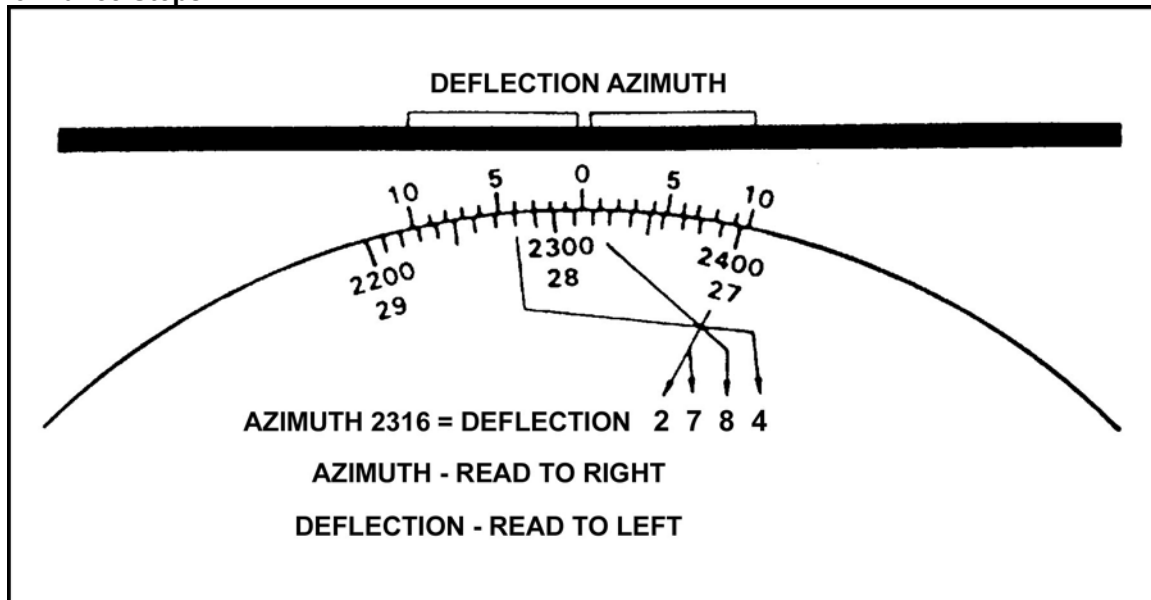

Figure 2. Deflection determination.
- (6) To determine the chart deflection to fire the first round, index the grid azimuth (direction of fire) and read the deflection that corresponds to the grid azimuth. Record the deflection in the CHART DATA/DEFL block of the computer's record.
- b. Determine deflection. To determine the deflection for the first round, keep the direction of fire indexed and read the deflection as follows (Figure 2):